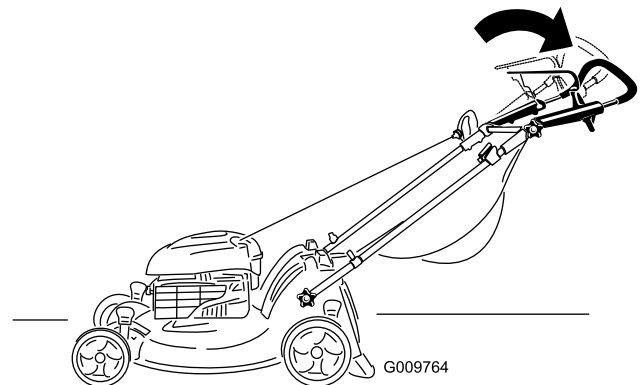

Figure 17
2. Move the upper handle to the desired position (Figure 17).